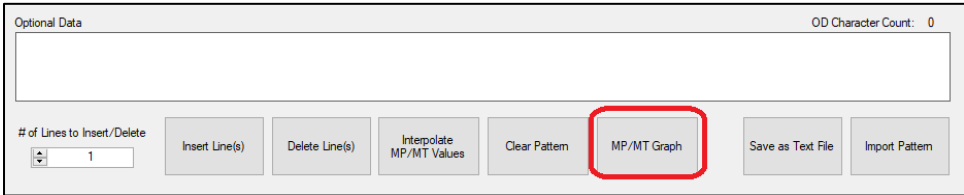

FIGURE 6-49 HHT TEST PATTERN GENERATOR SOFTWARE –MP/MT GRAPH BUTTON
STEP 2	Click on the “MP/MT Graph” button – see Figure 6-49.